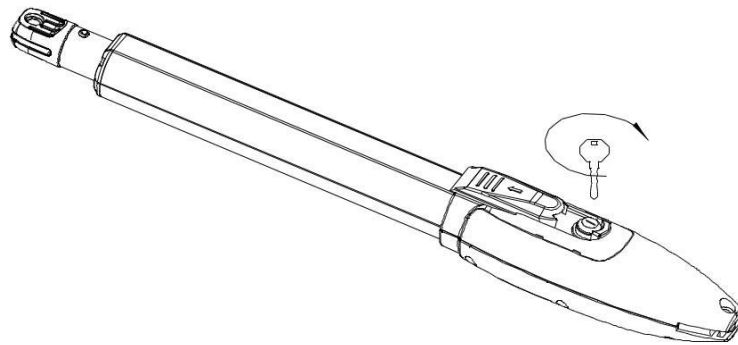

Figure 6
C) Before installation, unlock both main machines. Unlocking method: Open the manual release cap, insert the manual release key, turn the key until it releases, as shown in Figure 6, and rotate the telescopic arm. You will see that it extends easily by hand.